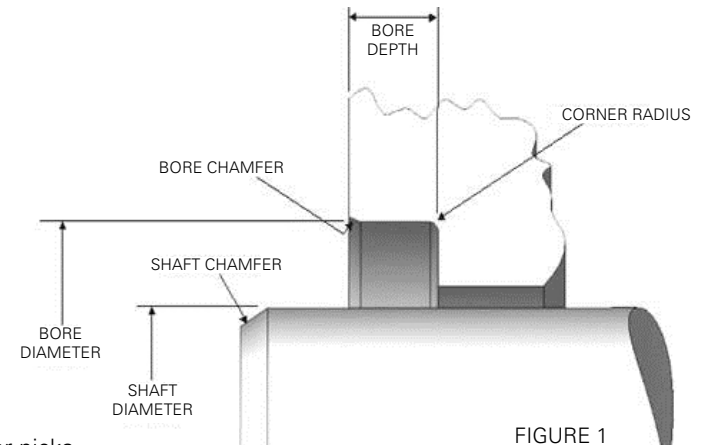

FIGURE 1
- » Both the shaft and bore should include an edge relief (preferably and edge chamfer) as shown in Figure 1